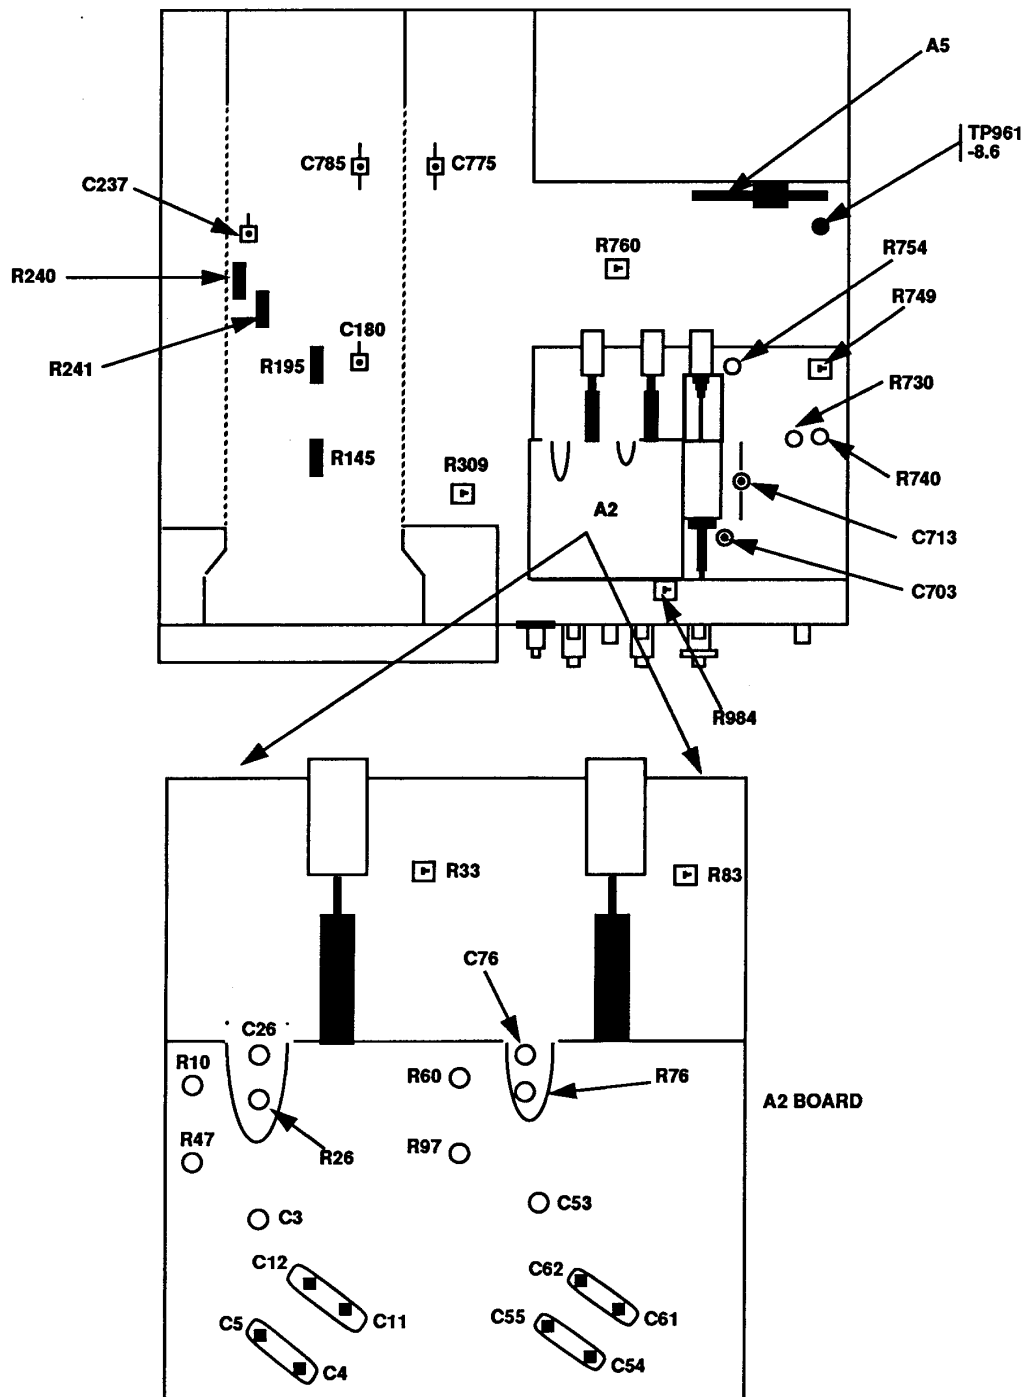

Figure 1. Adjustment locations – top view.
- (1) Disconnect oscilloscope calibrator **CHAN 1** from TI **CH 1**.
- (2) Set **CH 1 AC GND DC** switch to **AC**.
- (3) Set **CH 1 VOLTS/DIV** switch to **50m**.
- (4) Adjust **CH 1 POSITION** control to position trace on center horizontal graticule line.
- (5) Set **CH 1 VOLTS/DIV** switch to **5m**.
- (6) Adjust R10 (fig. 1) to position trace on center horizontal graticule line.
- (7) Repeat (3) through (6) above for minimum trace shift when setting **CH 1 VOLTS/DIV** switch from **50m** to **5m**.
- (8) Adjust **CH 1 POSITION** control to position trace on center horizontal graticule line.
- (9) Set **CH 1 VOLTS/DIV** switch to **2m**.
- (10) Adjust R33 (fig. 1) to position trace on center horizontal graticule line.
- (11) Set **CH 1 VOLTS/DIV** switch to **5m**.
- (12) Repeat (8) through (11) above for minimum trace shift when setting **CH 1 VOLTS/DIV** switch from **5m** to **2m**.
- (13) Connect oscilloscope calibrator **CHAN 1** to TI **CH 1** using a 50Ω feedthrough termination.
- (14) Position controls as listed in (a) through (c) below:
- (15) Set oscilloscope calibrator **EDGE** output to **10 kHz** and 5 divisions of vertical deflection on TI.
- (16) Adjust **CH 1 POSITION** control to position top of waveform to the center horizontal graticule line.
- (17) Adjust C3 (fig. 1) and R47 (fig. 1) for the best square corner and flat top.
- (18) Remove 50 Ω feedthrough termination and connect calibration generator **OUTPUT** to TI **CH 1**.
- (19) Set oscilloscope calibrator voltage output to 10 mV at 1 kHz .
- (20) Position controls as listed in (a) through (c) below:
- (21) Adjust R26 (fig. 1) for 5 divisions of vertical deflection on TI (R).
- (22) Set **CH 1 VOLTS/DIV** switch to **10m**.
- (23) Set oscilloscope calibrator output to 50 mV.
- (24) Adjust R145 (fig. 1) for 5 divisions of vertical deflection on TI (R).
- (25) Connect oscilloscope calibrator **CHAN 1** to TI **CH 1** using a 5-80 pF standardizer.
- (26) Set oscilloscope calibrator **EDGE** output to **1 kHz** and amplitude for 5 divisions of vertical deflection on TI.
- (27) Adjust 5-80 pF standardizer for optimum square wave.
- (28) Set **CH 1 VOLTS/DIV** switch to **.1**.
- (29) Replace 5-80 pF standardizer with 50 Ω feedthrough termination.
- (30) Set oscilloscope calibrator output amplitude for 5 divisions of vertical deflection on TI.